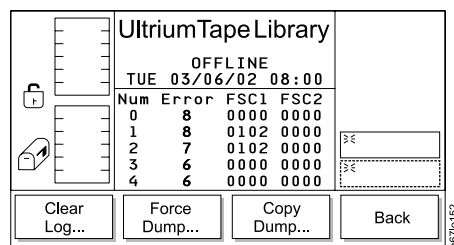

Figure 133. Drive Error Log Options Submenu
2. Press the button below the **Options** softkey. The Drive Error Log Options Submenu displays (see Figure 133).
5. To return to the Drive Error Logs Options Submenu (see Figure 133), press the button below the **OK** softkey. To return to the Main Menu, press the button below the **OK** → **Back** → **Cancel** → **Back** softkeys. Continue to press the button below the **Back** softkey until the Main Menu displays.